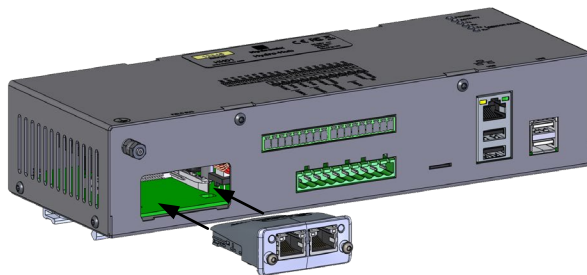

Figure 7: Installing the Hydro-Hub PROFINET Module
3. Insert the Hydro-Hub PROFINET Module as show in Figure 7. Ensure the connector is correctly positioned.